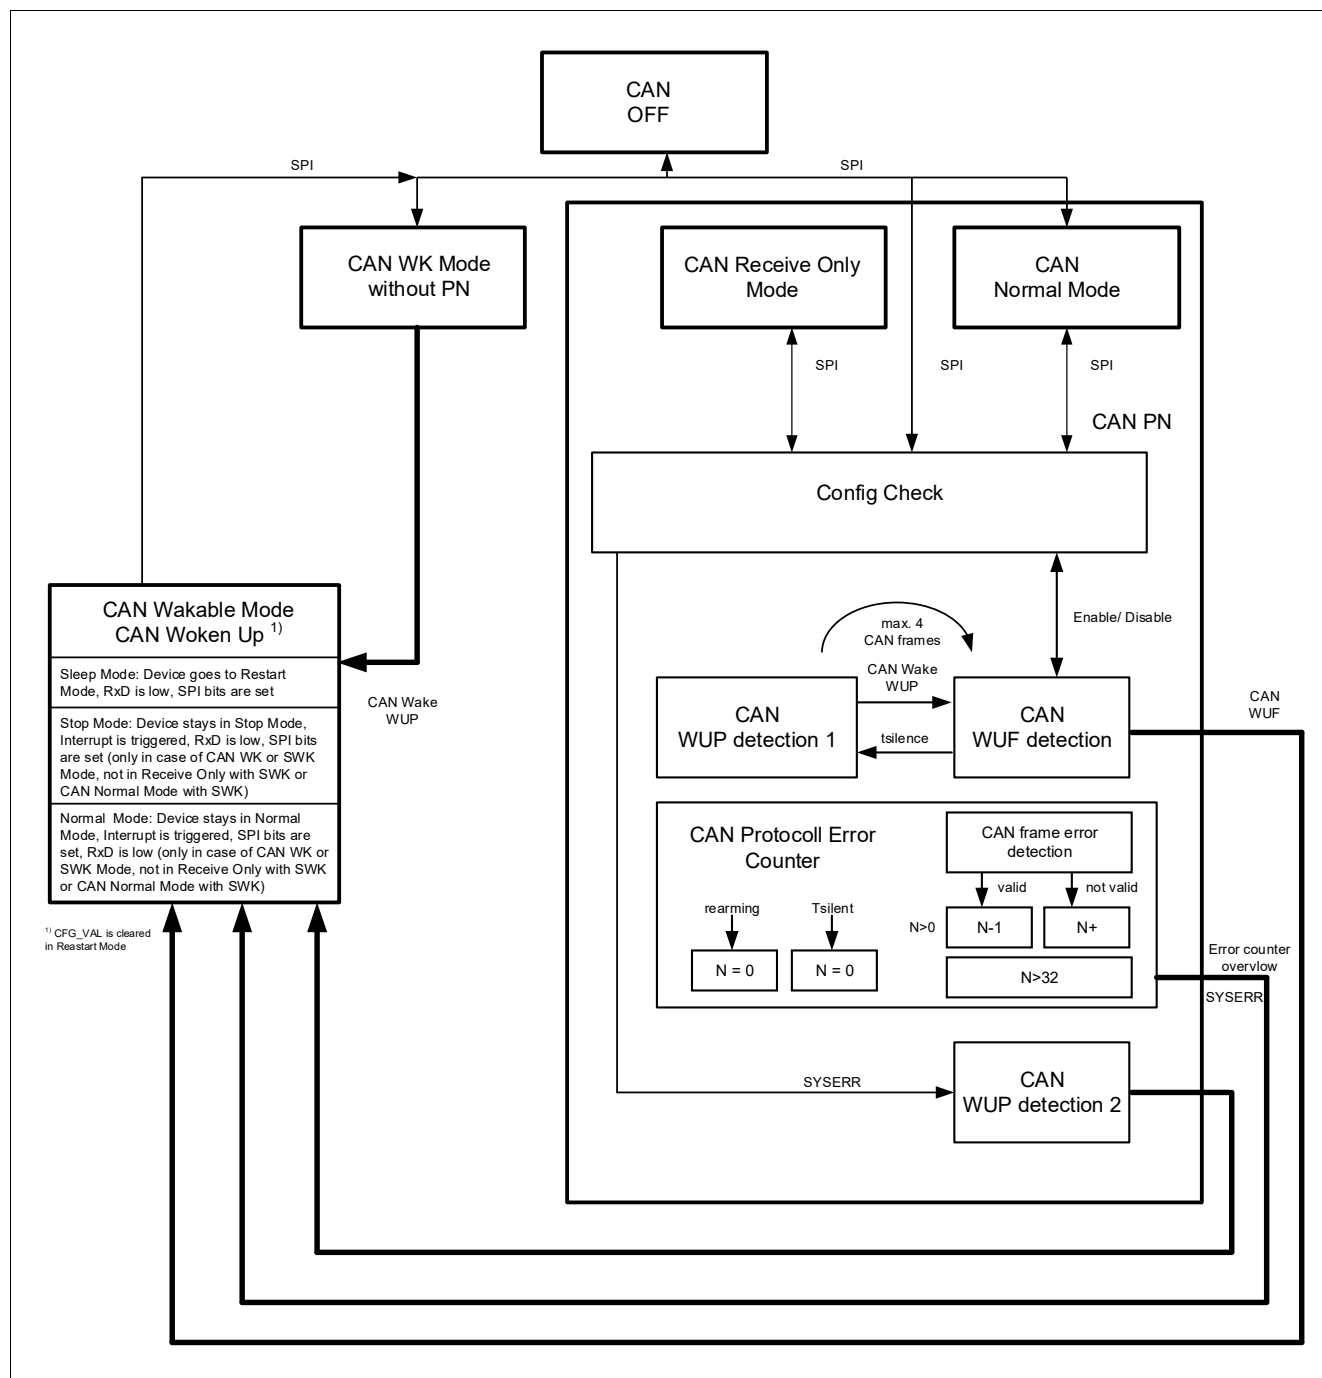

Figure 22 CAN Selective Wake State Diagram
*Note: It is possible that WUF and WUP bit are set at the same time if a WUF causes a wake out of SWK, by setting the interrupt or by restart out of Sleep Mode. The reason is because the CAN has been in WUP detection 1 state during the time of CAN SWK Mode (because of t_{SILENCE}). See also **Figure 22**.*
The SWK_SET bit is set to signalize the following states (see also **Figure 22**):